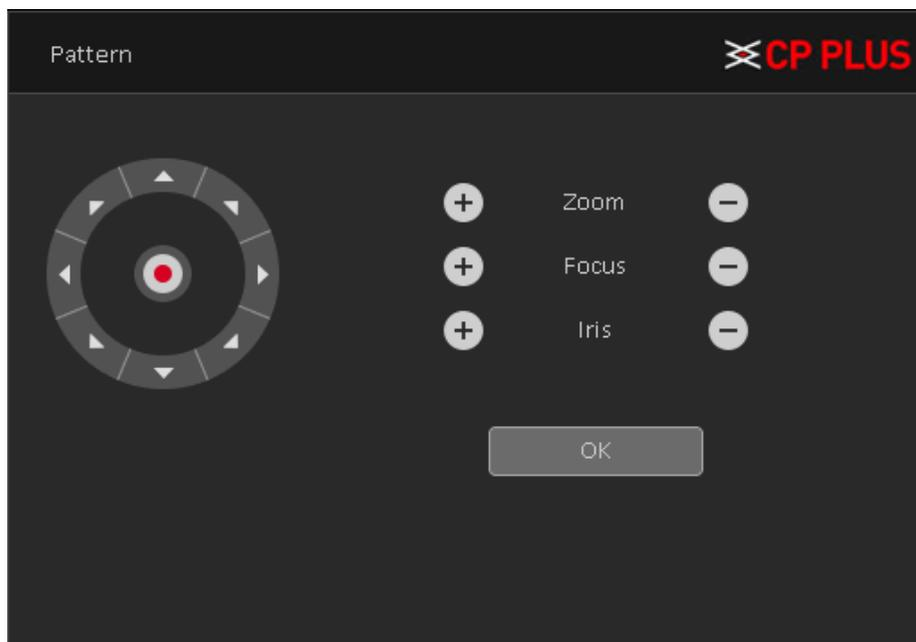

Figure 3.28
- Click on button to save followed path as pattern. See Figure 3.28